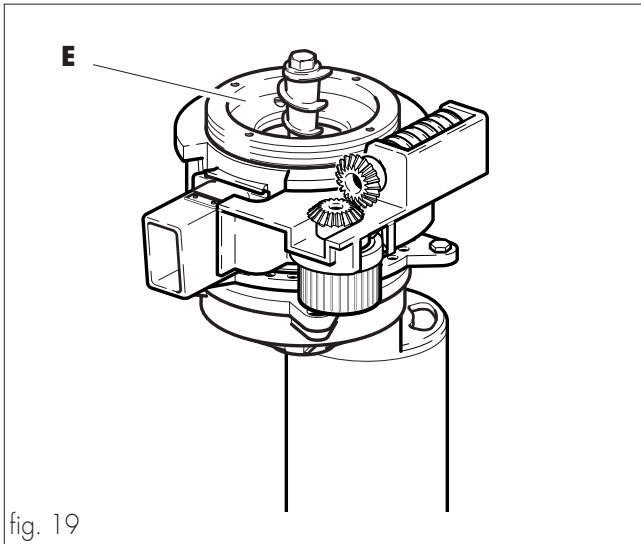

fig. 19
- Completely screw the adjustment ring nut (ref. **E**, fig. 19), then unscrew it by half a turn.